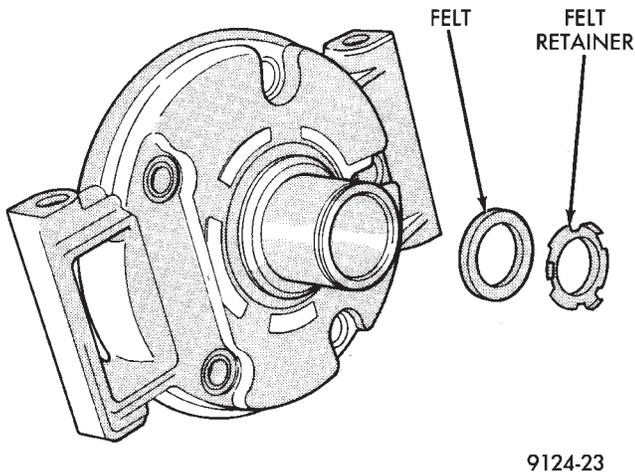

Fig. 13 Felt Retainer and Felt
(12) Install felt shaft seal and retainer (Fig. 13) into front housing.